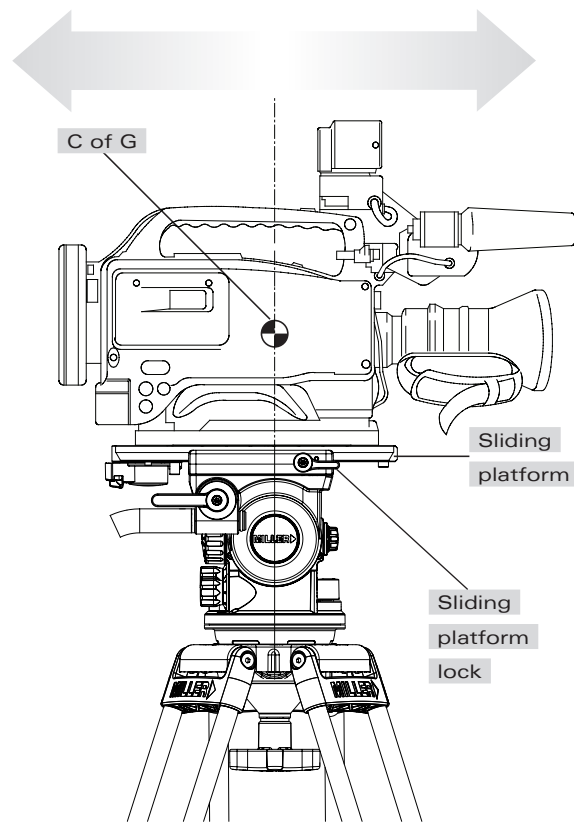

Fig. 9
- 4.6 Release the SLIDING PLATFORM LOCK and slide the SLIDING PLATFORM such that the camera's C of G is directly above the centre axis of the Fluid Head (fig. 9) and tighten the SLIDING PLATFORM LOCK. If this can not be achieved then reposition the CAMERA PLATE on the camera or the QUICK RELEASE TRIPOD ADAPTOR – step 2.4. This will ensure that the system has maximum stability.